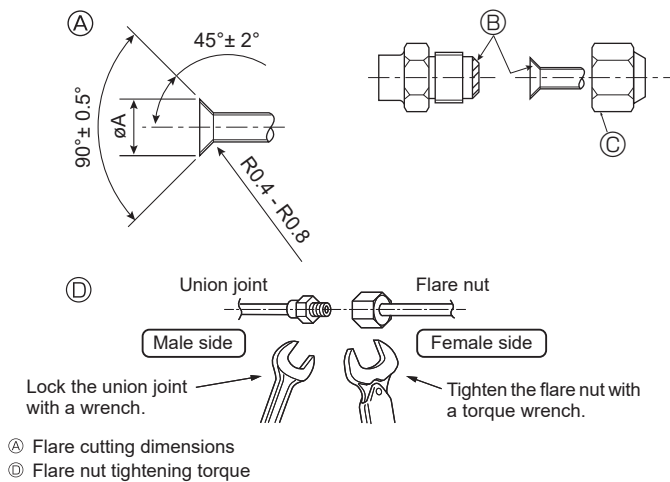

Fig. 4-6
Ⓐ (Fig. 4-6)
ⓓ (Fig. 4-6)
4.4. Connecting pipes (Fig. 4-6)